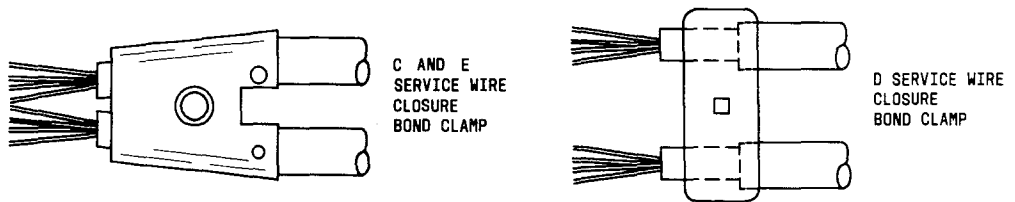

Fig. 3—Bond Clamp Installed on Service Wires
- 3.03** Install bond clamp on service wire shield as illustrated in Fig. 3. Tighten the bond clamp securely.